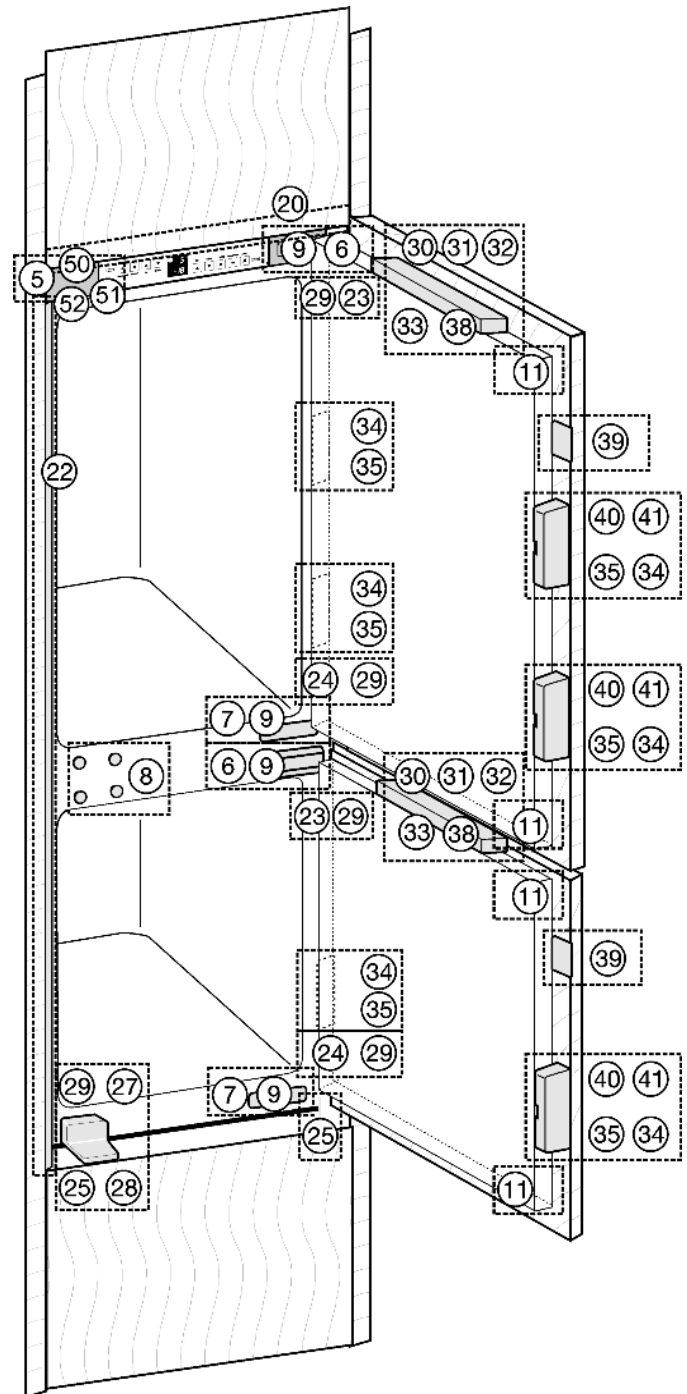
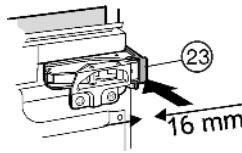

Fig. 10
Fig. 14
- ▶ Remove covers Fig. 10 (5,6,7).
- ▶ Clip spacer Fig. 14 (23) onto the upper hinge and spacer Fig. 10 (24) onto the lower hinge.